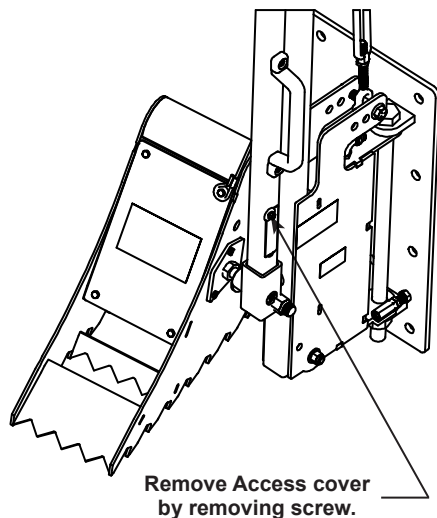

Figure 10
4. Reinstall the electrical cable access cover by aligning the end of the safety cable with the hole in the access cover. See Figure 10. Secure cover with the screw and washer removed earlier.